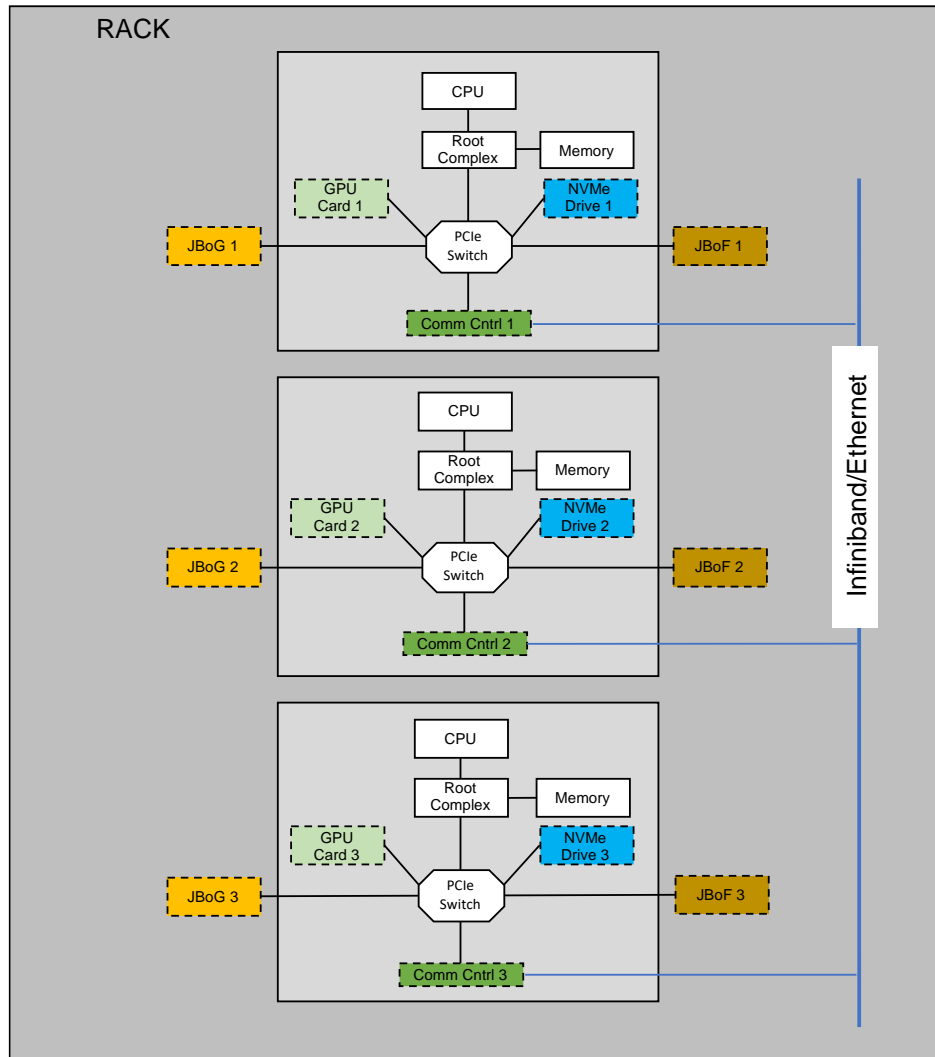
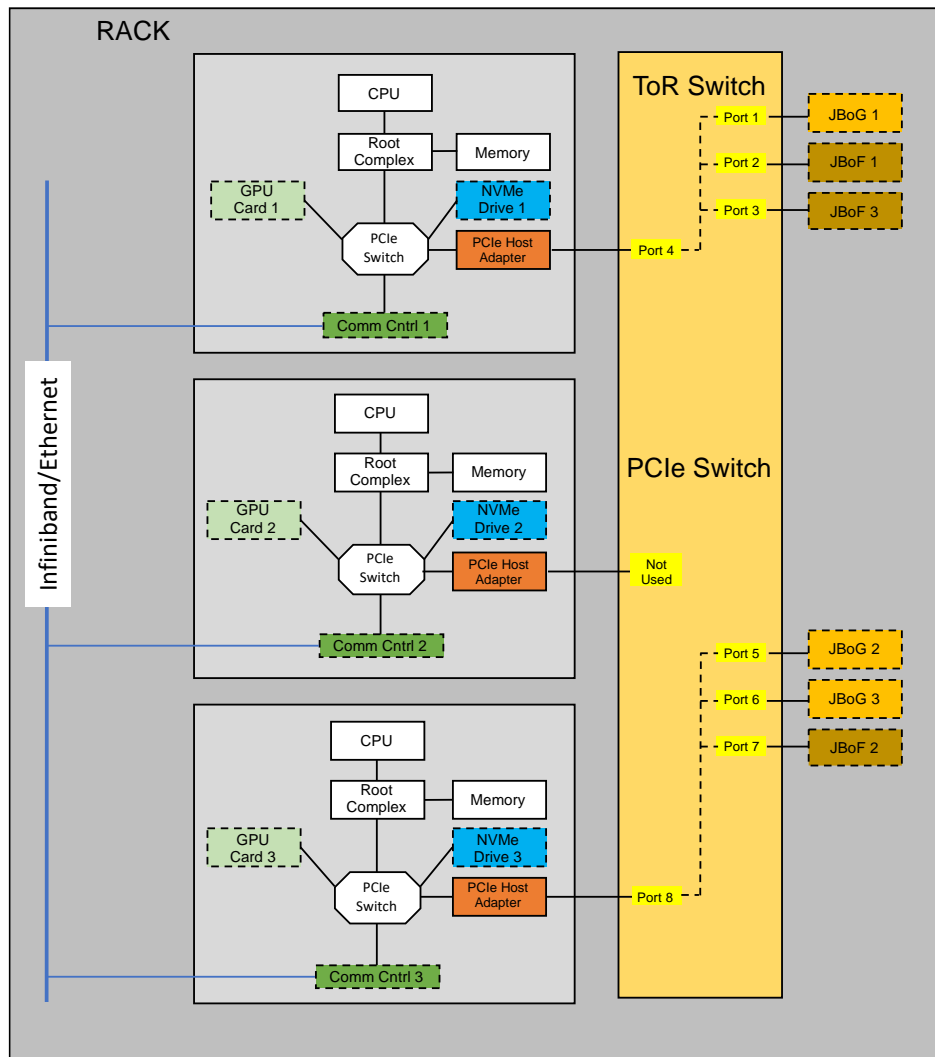

Figure 1 –Example Rack Scale Server
Figure 2 –Top of Rack Solution
Figure 1 –Example Rack Scale Server.....	4
Figure 2 –Top of Rack Solution.....	5
**Figure 1** depicts an example of a Rack scale system made up of a variety of hardware resources. The Compute Servers are not restricted to x86 based platforms and alternately can be FPGA, ASICs with embedded SoC, and a variety of other Computing elements.
Figure 1 shows three sets of servers with each connected to a JBoG and JBoF respectively. It also shows GPU card and NVMe Drive resident in every server installed in its backplane. These servers are also connected by a NIC card for Ethernet or HBA for InfiniBand serving as interconnect within the Rack. For discussion purposes these are generically termed Communication Controller.
**Figure 2** shows how a Top of Rack (ToR) Switch installed in the Rack is used to connect to some of the peripheral devices exclusively through PCIe Switching embedded in the ToR.
With this configuration the JBoGs and JBoFs associated with the servers as shown in Figure 1 can be under the domain of any one of the three servers shown. Figure 2 is an example of how these resources are assigned to a server pretty much at will. This configuration can be performed under software control with the help of some level of intelligence residing in the ToR.